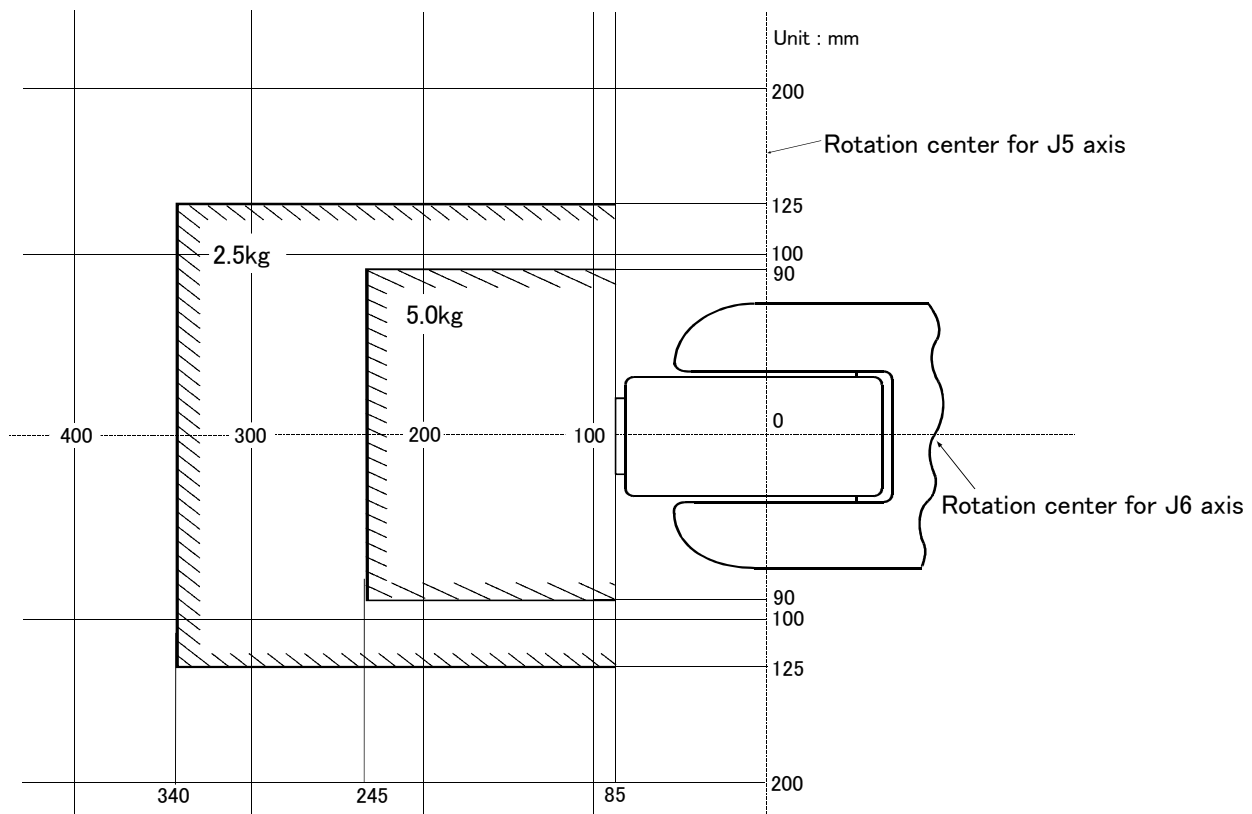

Fig.2-1 : Position of center of gravity for loads (for loads with comparatively small volume):RV-6S/6SL Series
- (1) The tooling should have the value less or equal than the smaller of the tolerable inertia and the tolerable moment found in Page 6, "Table 2-1 : Tab Standard specifications of robot"
- (2) Fig. 2-1 shows the distribution dimensions for the center of gravity in the case where the volume of the load is relatively small. Use this figure as a reference when designing the tooling.
- (3) When the load is not mass, but force, you should design the tooling so that it does not exceed the value for allowable moment described in Page 6, "Table 2-1 : Tab Standard specifications of robot"